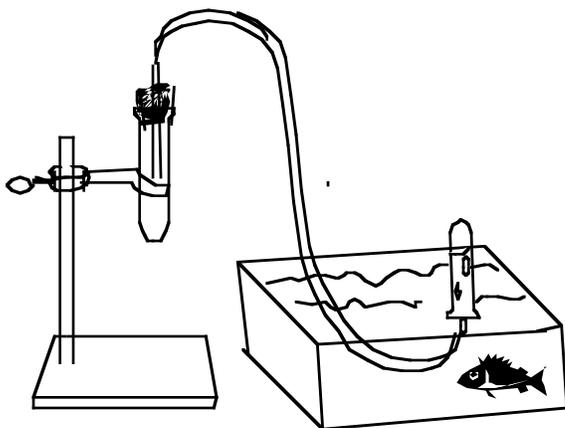

Fig. 1. Gas generating/collecting apparatus.
1. Set up a gas generating/collecting apparatus as shown in Fig. 1. Clamp a large test tube to a ring stand. Attach a delivery tube (glass tubing inserted through a rubber stopper connected to rubber tubing) to the test tube. Place the end of the rubber tubing in the water in the trough. You will perform a chemical reaction in the large test tube to produce a gas. The gas passes through the delivery tube where it will be collected in another test tube or glass bottle by displacement of water.